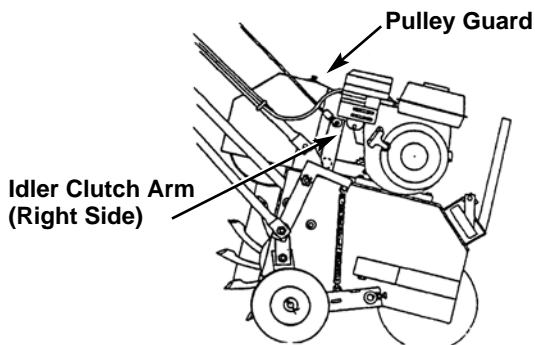

Fig. 2
TA-25DE - Qty. 4, one in each wheel assembly and one in each idler/clutch arm pivot bearing. (See Fig. 2.)
2. Take off pulley guard (see Fig. 2) by removing bolts, etc. which attach it to the frame.